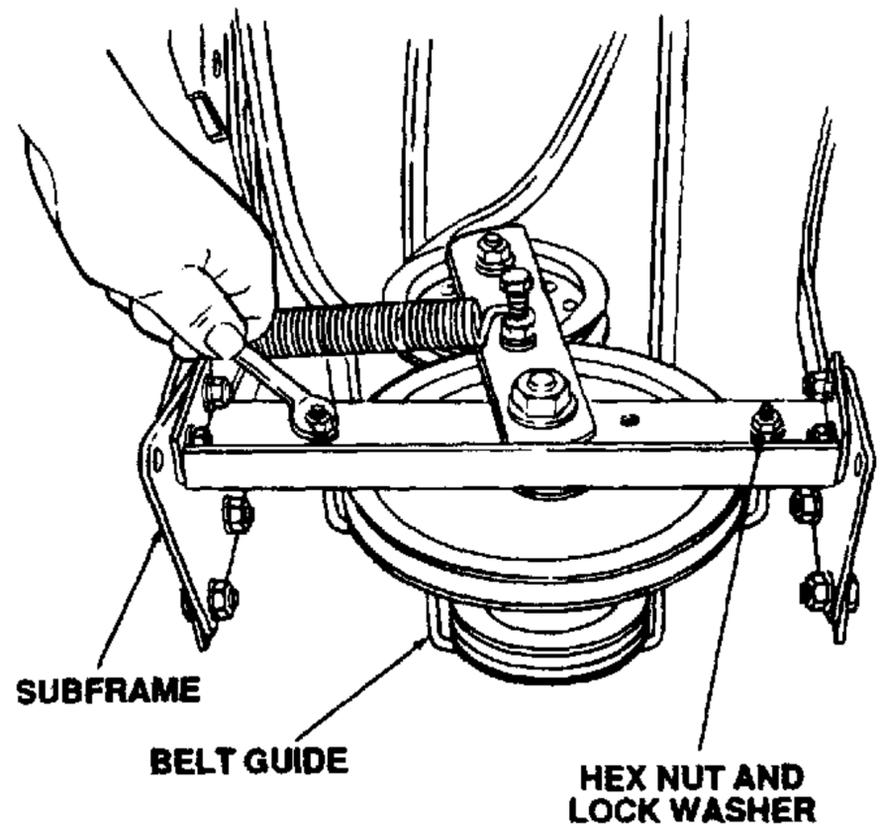

Figure 7-41. Removing Belt Guide.
- b. Remove the belt guide from the double pulley subframe by removing the hex nuts and lock washers. See Figure 7-41.
- h. Install the belt guide using the hex nuts and lock washers. Refer to Figure 7-41.
- g. Place the auger drive belt on the smaller pulley of the double pulley assembly, then install the belt guide using the hex nuts and lock washers. Refer to Figure 7-41.